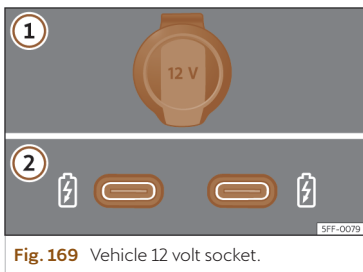

Fig. 169 Vehicle 12 volt socket.
>>> **Fig. 169**
Depending on the equipment and the country, the vehicle may also have USB connections **exclusively for charging or as a power socket** >>> **Fig. 169 ②**.